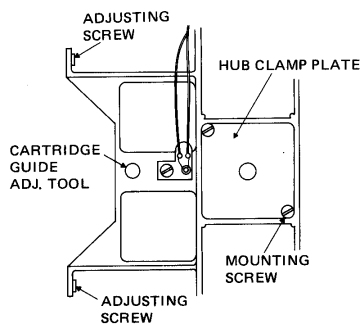

FIGURE 6 CARTRIDGE GUIDE ADJUSTMENT
- If item 'g' is ok, adjust down stop screw (Figure 6) clockwise until timing is met.
- a. Remove hub clamp plate. Reference Figure 6.
- a. Insert the shoulder screw (tool P/N 50377-1) through the adjustment hole in the cartridge guide and screw completely into the base casting (hand tight). Reference Figure 6.